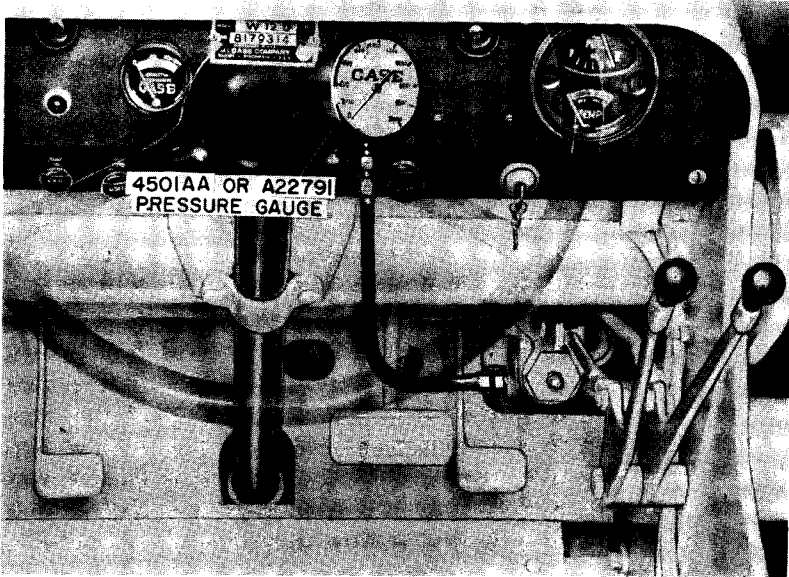

Figure 95
3. Place a receptacle under the hydraulic control valve body and remove the small pipe plug shown in Figure 95.
4. Install a 4501AA Pressure Gauge in the threaded junction block opening as shown in Figure 95. Note: The 4501AA or A22791 Pressure Gauge can be purchased from your Case Dealer.